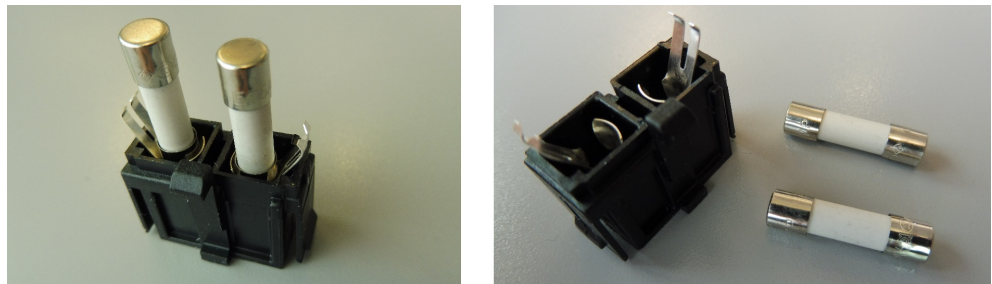

Figure 13-2: Replacing the fuses
6. Remove the fuses from the fuse holder as in Figure 13-2.